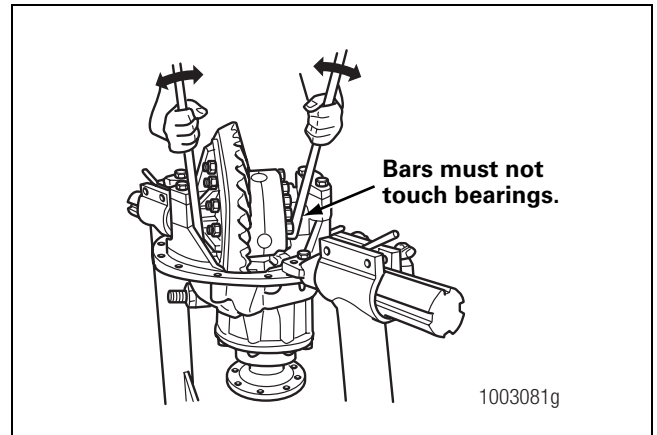

Figure 5.56
- B. Insert two pry bars between the differential case or ring gear and the carrier at locations other than described in Step A. The pry bars must not touch the differential bearings. Figure 5.56.